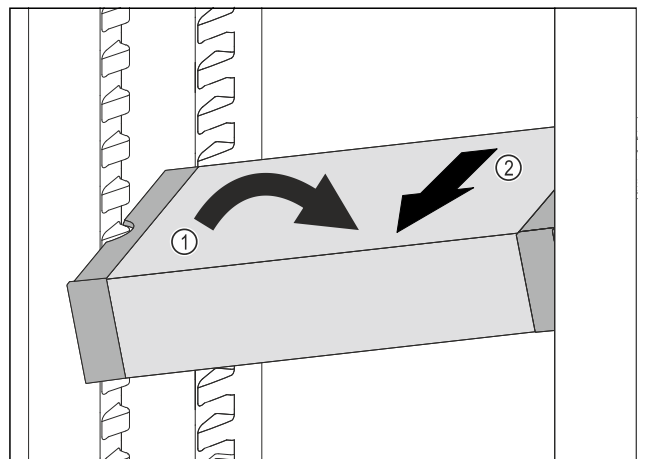

Fig. 139
- Set VarioSafe in refrigerator compartment at an angle. Fig. 139 (1)
- Take VarioSafe out to the front. Fig. 139 (2)